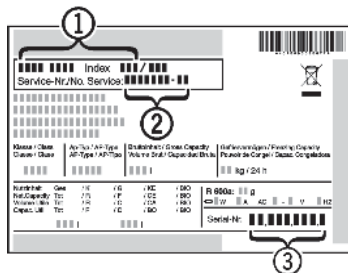

Fig. 9
- ▶ Read the appliance designation *Fig. 9 (1)*, service no. *Fig. 9 (2)* and serial no. *Fig. 9 (3)* from the rating plate. The rating plate is located inside the appliance on the left-hand side.
- ▶ Notify a qualified service provider, specifying the fault, appliance designation *Fig. 9 (1)*, service no. *Fig. 9 (2)* and serial *Fig. 9 (3)* no.